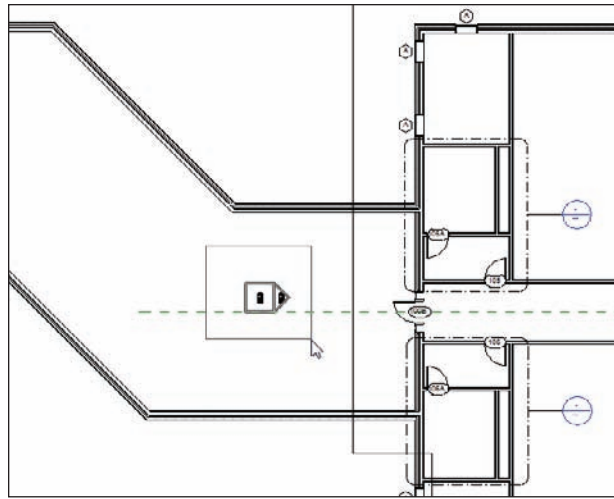

FIGURE 3.72 The elevation marker is right in the way!
I saved the best view for last... or at least the most popular. Elevations are essential for any project—so essential, in fact, that Revit provides four of them before you place a single wall into the model. The four shapes that represent houses that were in the model at the beginning of the book are elevation markers, as shown in Figure 3.72. These markers are typically handy but are most certainly in the way now. The first thing we need to do is to move one of them out of the way. The second thing we need to do is to create a few new ones!
1. Go to the Level 1 floor plan. In the eastern part of the corridor, there is an elevation. Yours may be in a slightly different location than the book's example, but it needs to be moved nonetheless (see Figure 3.72).